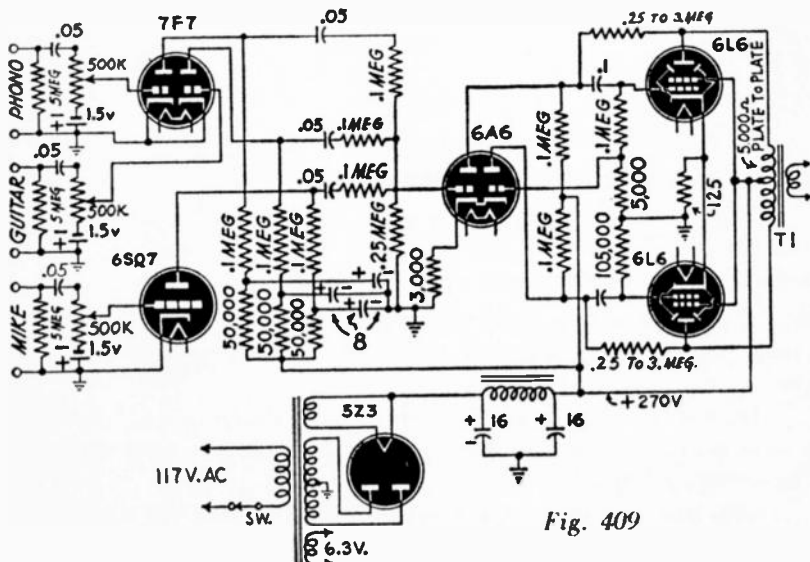

Fig. 409
A. Two of the inputs are connected to a 7F7 and the low level input to a 6SQ7 (see Fig. 409). The 6A6 is a phase inverter which is required for push-pull. The bias cells for the input stages may be Mallory cells or small flashlight batteries. Three 50,000-ohm filter resistors are used.